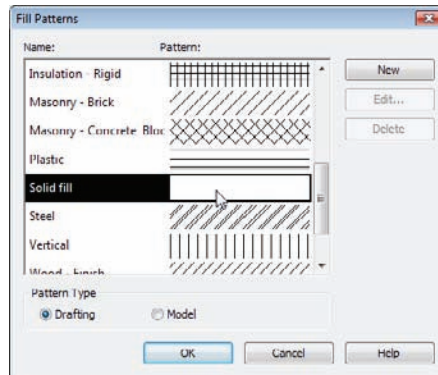

FIGURE 12.25 Select the Solid Fill pattern, and click OK.
7. You can select any hatch pattern you wish. Make sure Solid Fill is selected, as shown in Figure 12.25, and click OK.